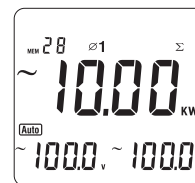

Figure 8
- If necessary, press  $\Sigma$  to get the sum of watts as figure 8.
- If necessary, press  **$\Sigma$**  to get the sum of watts as figure 8.